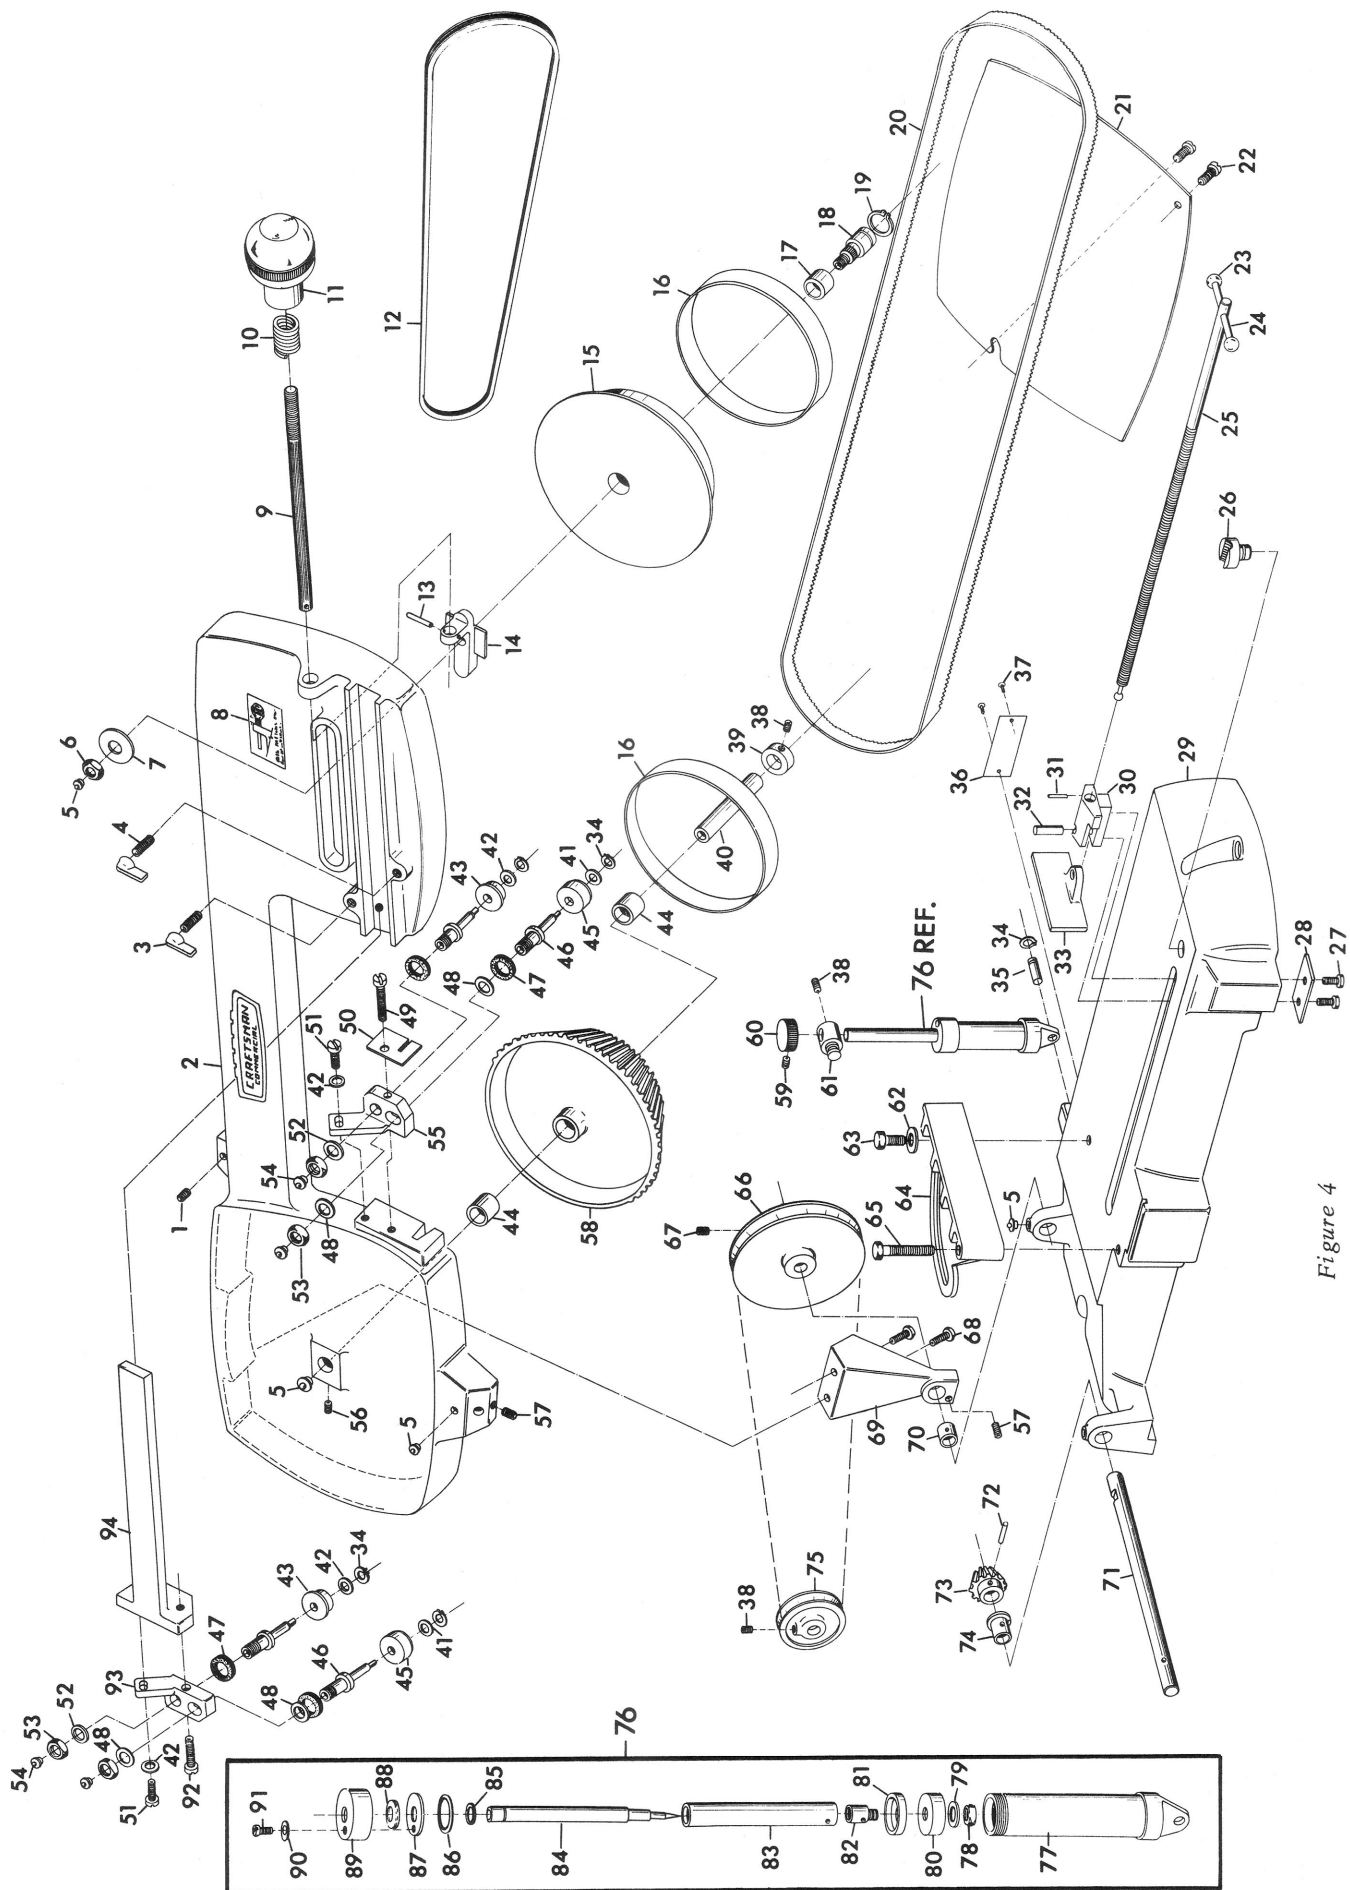

Figure 4
BEVEL GEARS: Should play develop between the wheel and bevel gear (58 and 73, Figure 4), loosen the set screw (57) on front of frame (2) and tighten the set screw (57) on the pivot shaft bracket (69).
Lubricate regularly by putting 3 to 4 drops of SAE 30 oil into each of the eight oil holes. The holes have fitted covers (5 and 54, Figure 4). Locations are: